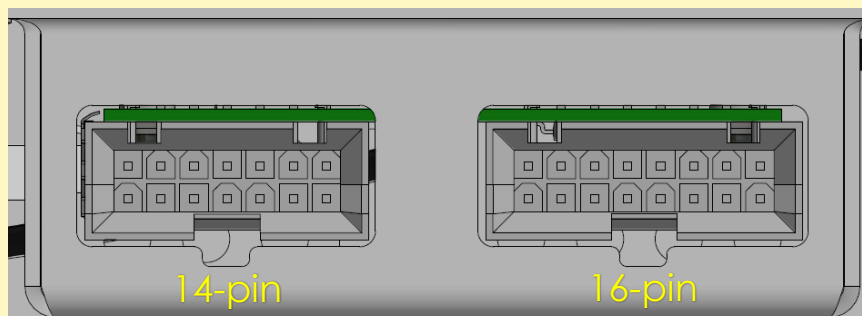

**Figure 12 - Module Connections and BMS Connectors**
8. Connect all the modules together, starting at the bottom left-hand blue connector and working upwards (Figure 12 circled in yellow).
9. First, connect the 3x 16-pin BMS connectors, then the 3x 14-pin BMS connectors, in both cases, working from the bottom up (Figure 12 circled in red).
10. Finally, connect the battery stack connections, the black connector at the bottom and then the red connector at the top (Figure 12 circled in blue).